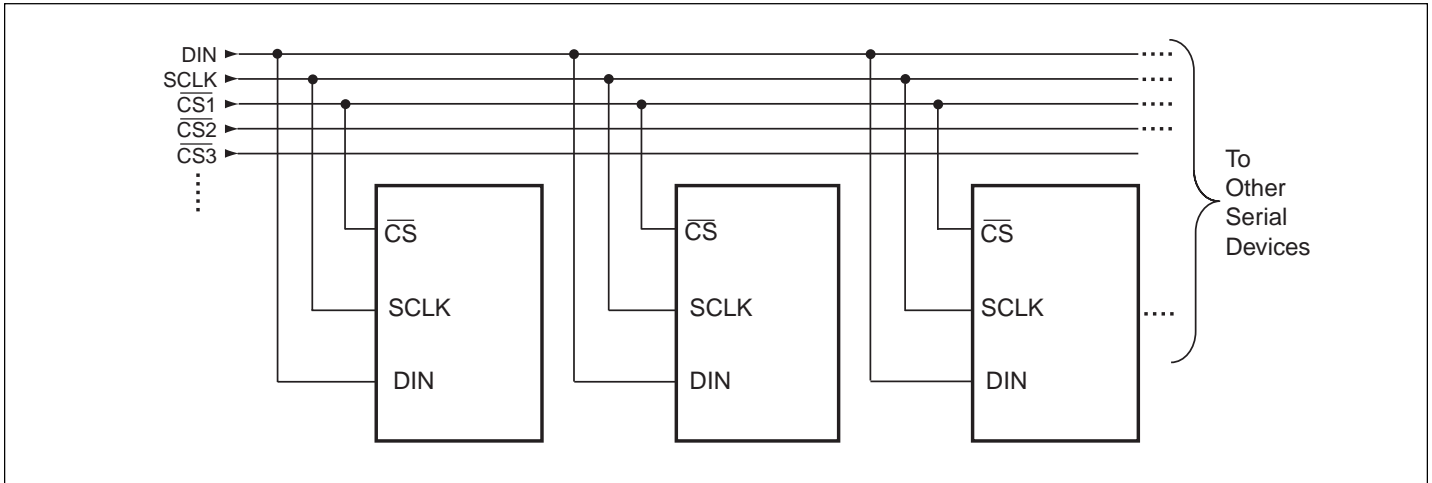

Figure 5. Addressable Serial Interface
6. See Figure 5. Off isolation = $20 \log_{10} V_{COM}/V_{NO}$; V_{COM} = output. NO = input to off switch.
6. See Figure 5. Off isolation = $20 \log_{10} V_{COM}/V_{NO}$, V_{COM} = output. NO = input to off switch.
For a simple interface using several PS395s, "daisy chain" the shift registers as shown in Figure 5. The \overline{CS} pins of all devices are connected together, and a stream of data is shifted through the PS395s in series. When \overline{CS} is brought high, all switches are updated simultaneously. Additional shift registers may be included anywhere in series with the PS395 data chain.